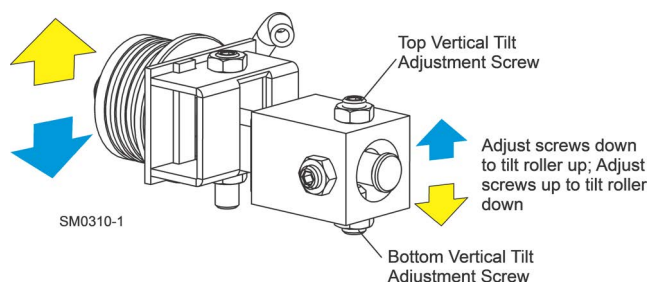

FIG. 7-6
7. Loosen one set screw at the side of the blade guide assembly. **See Fig. 7-6.**